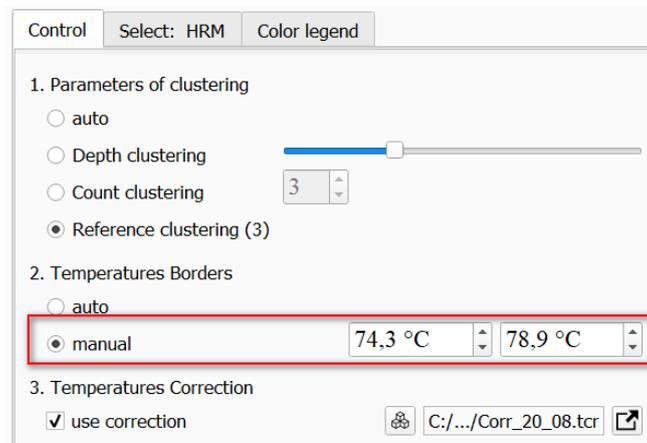

Figure 95 – Manual setting of the temperature limits
- **Temperatures Borders** – a setting that allows you to set the limits of the melting analysis area. Select manual entry of temperature limits. To change the limits of the melting region, enter the required numerical values in the temperature limit entry windows (fig. 95).